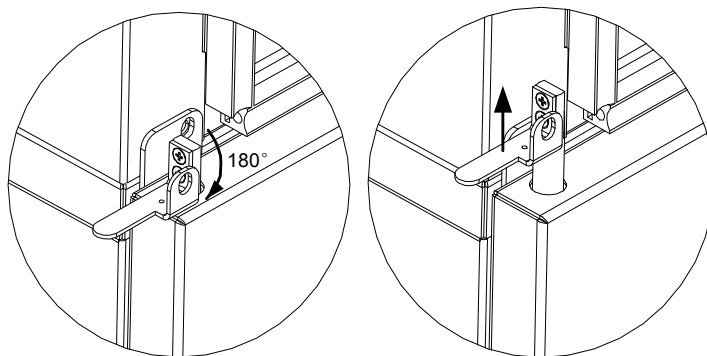

Figure 2-6 Opening battery compartment door
3. Turn the pole clockwise 180° and pull it up, as shown in Figure 2-6. The battery compartment door is open.